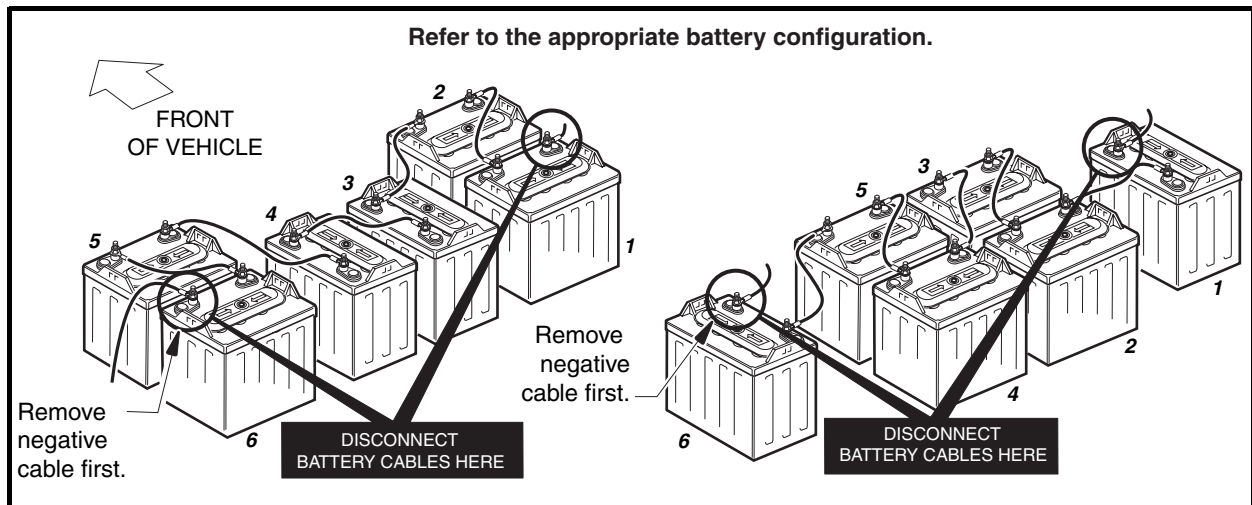

Figure 13-1 Battery Configuration
5. Install batteries in the proper orientation (**Figure 13-1, Page 13-2**). Install battery hold-downs. The hold-downs should be tight enough so batteries do not move while vehicle is in motion, but not so tight as to crack or buckle battery case. Tighten to 40 in-lb (4.5 N·m), alternating between hold-down bolts.
6. Install wires in proper sequence (**Figure 13-1, Page 13-2**). Install black wire to negative (–) post of battery no. 6 last. Make sure all connections are tight. Tighten to 110 in-lb (12.4 N-m). Coat all terminals with Battery Terminal Protector Spray (CCI P/N 1014305) to minimize future corrosion.
When the batteries are fully charged, disconnect the charger DC plug. Wait 20 to 30 seconds and reconnect the DC plug to restart the charger. After 5 minutes, use a multimeter to check and record the voltage of the battery set as well as the individual batteries. Set the multimeter to 200 volts DC. Place the red (+) probe on the positive (+) post of battery no. 1 and the black (-) probe on the negative (-) post of battery no. 6 (**Figure 13-1, Page 13-2**). Record reading. Then set multimeter to 20 volts DC and place the red (+) probe on the positive (+) post and the black (-) probe on the negative (-) post of each battery. Record the readings.